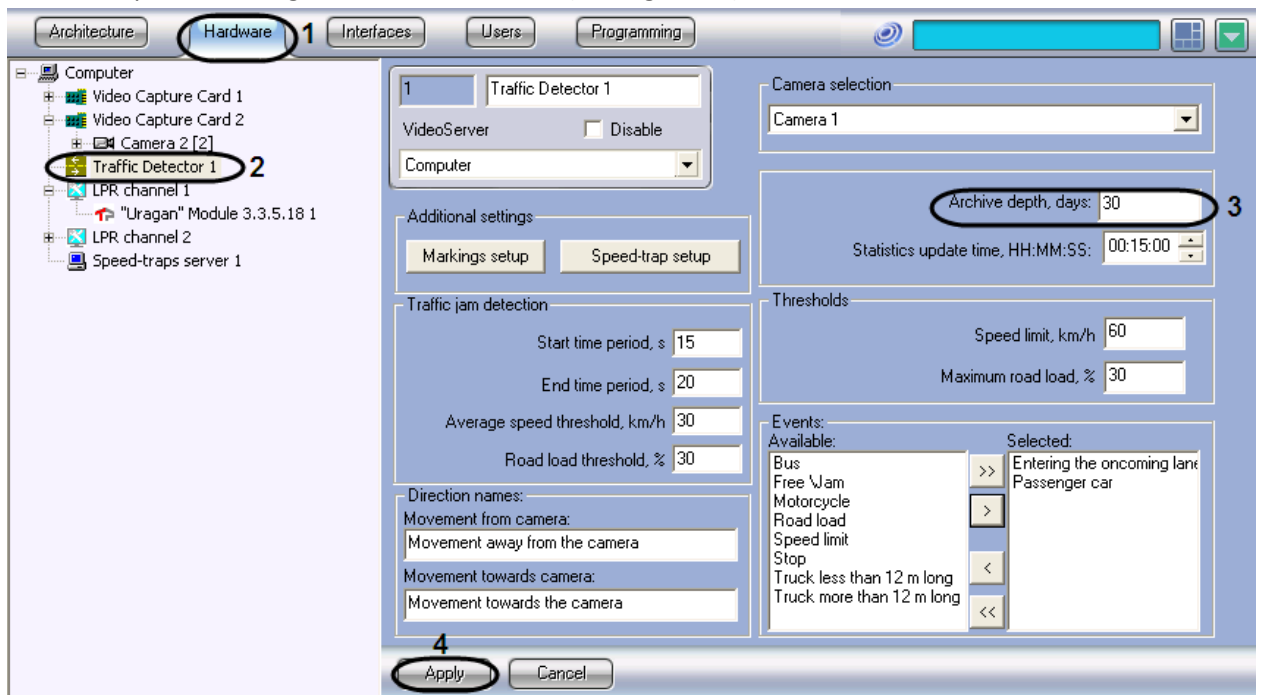

Fig. 7.4-2 Setting up the archive depth
- In the object tree on the left side of the Hardware tab, select the Traffic Detector object representing the Traffic Detector module to be set up. The settings panel of the selected object will open on the right side of the window (see Fig. 7.4-2).